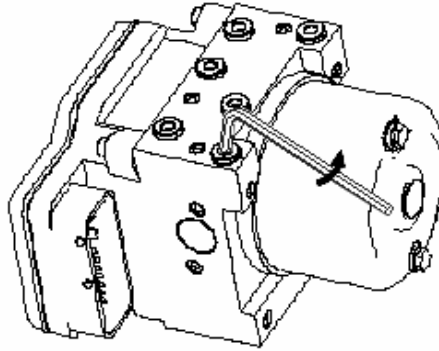

Fig. 3-13
(5) Remove the 6 bolts on wet HECU with 6mm hexagonal wrench in a counterclockwise direction, as in Fig. 3-13.